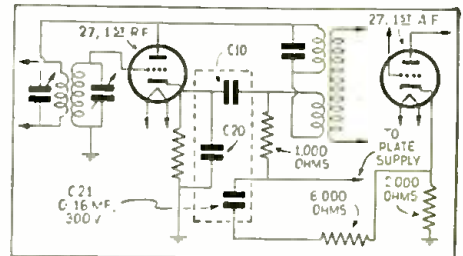

Fig. 1. Weak and distorted reproduction in Edison R4 and R5 receivers may be caused by defective C21, 0.16-condenser.
**Edison R4, R5.** Very weak and choked reproduction. The only clue to this trouble was a high cathode voltage on the type 27 1st A.F. stage. Everything else checked OK. Condenser C21, Fig. 1, was finally disconnected and found to be the guilty member. This condenser was leaking just enough to supply the high cathode voltage to the 1st A.F. stage. According to all data this is a hum-balance condenser but no difference in performance or hum could be noted with a new condenser or none at all so it was left out.
Fig. 1. Schematic diagram of the pushbutton tuner. Note the simplicity of connection; only 3 wires connect the unit to the chassis of the set to which it is added by the wide-awake Service Man.